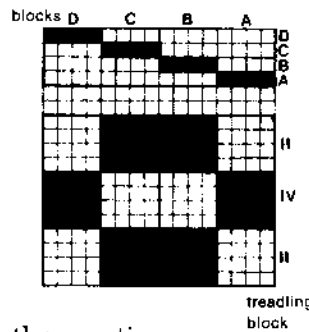

FIGURE 4
2. **Contemporary order of the blocks, also called "on opposites"** The blocks skip around; this causes the diagonal progression to break up. Adjacent blocks are well-defined and opposites of each other. See Fig. 4. Note that, when treadling on opposites, the first pattern pick of the second